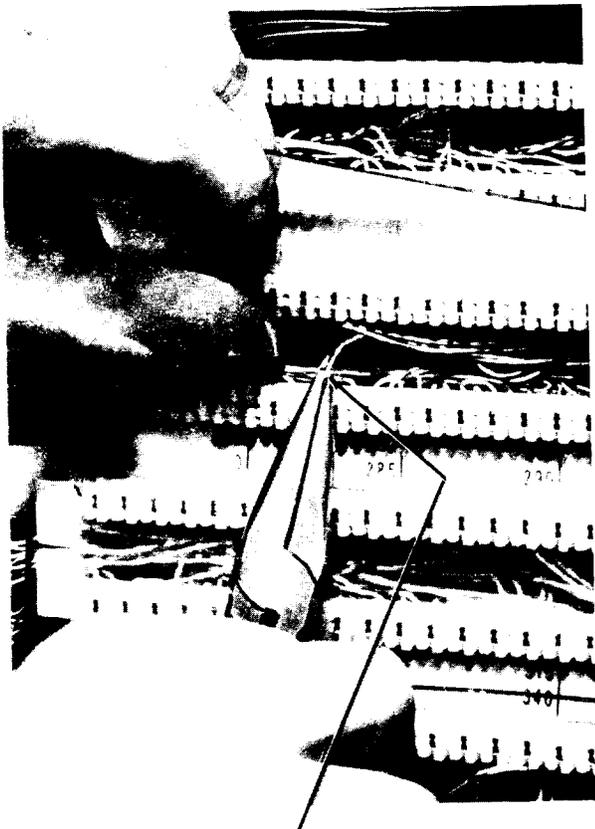

Fig. 12—Cutting Cross-Connecting Wire
5.06 Route the cross-connecting wire to the assigned feeder binding post, and cut to the required length (Fig. 12). Remove the test cord from the previ-